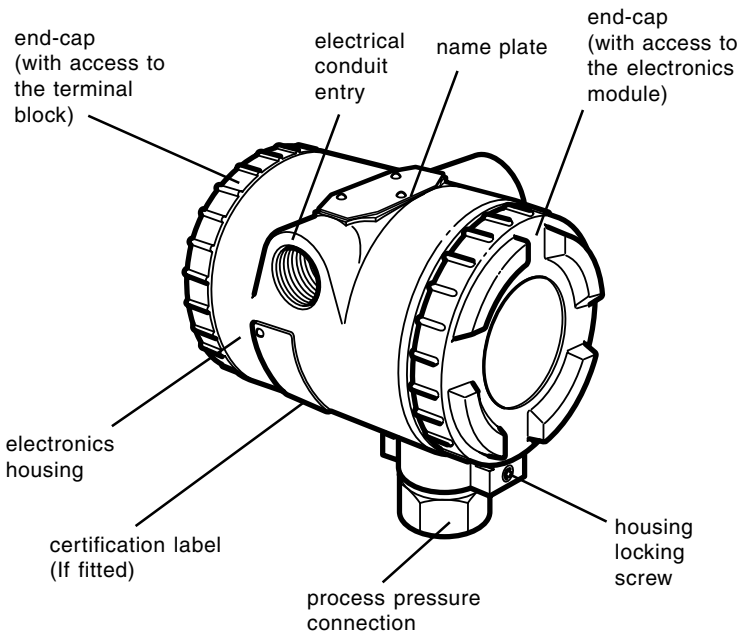

Figure 1-1 General view
1.2 About the Electronics Housing (Figure 1-1)